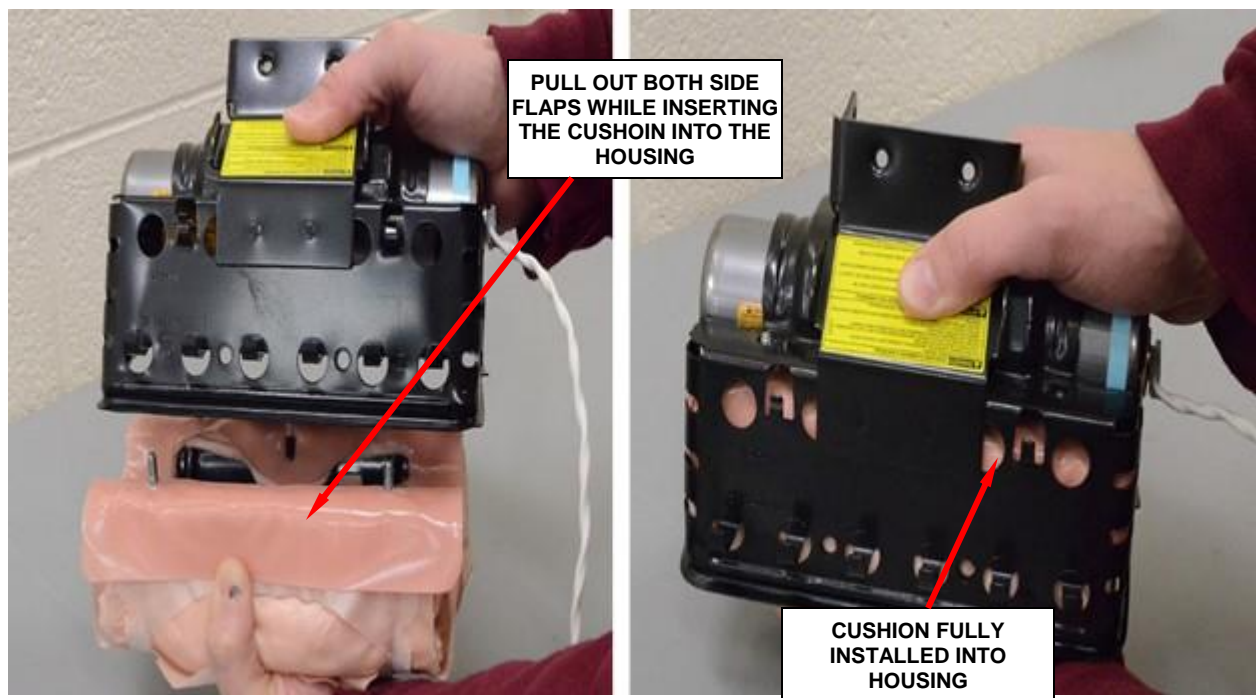

Figure 58 - Side Flaps Must Be Held Out
1. Insert the cushion, pulling out both side flaps (Figure 58).